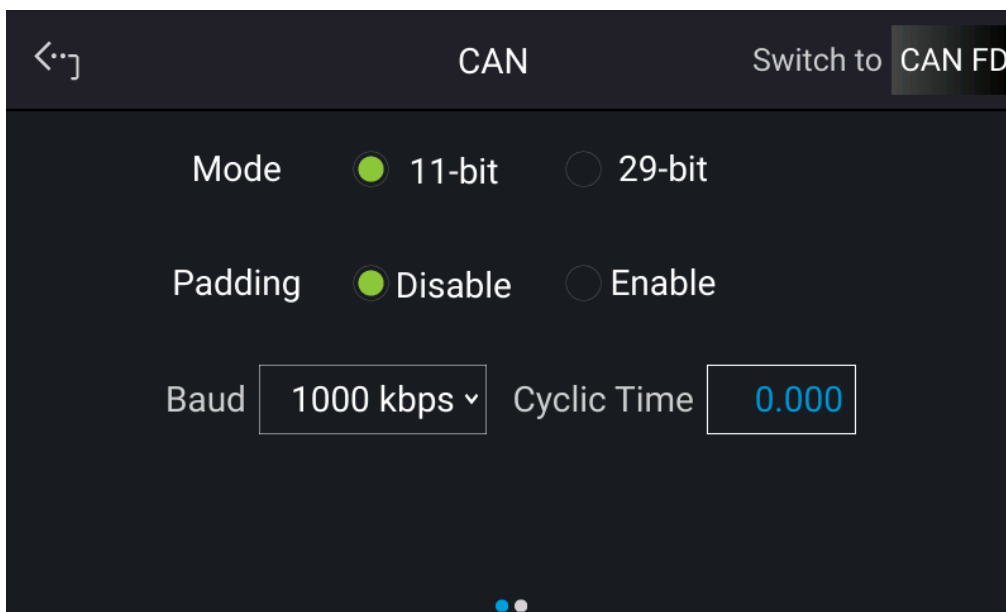
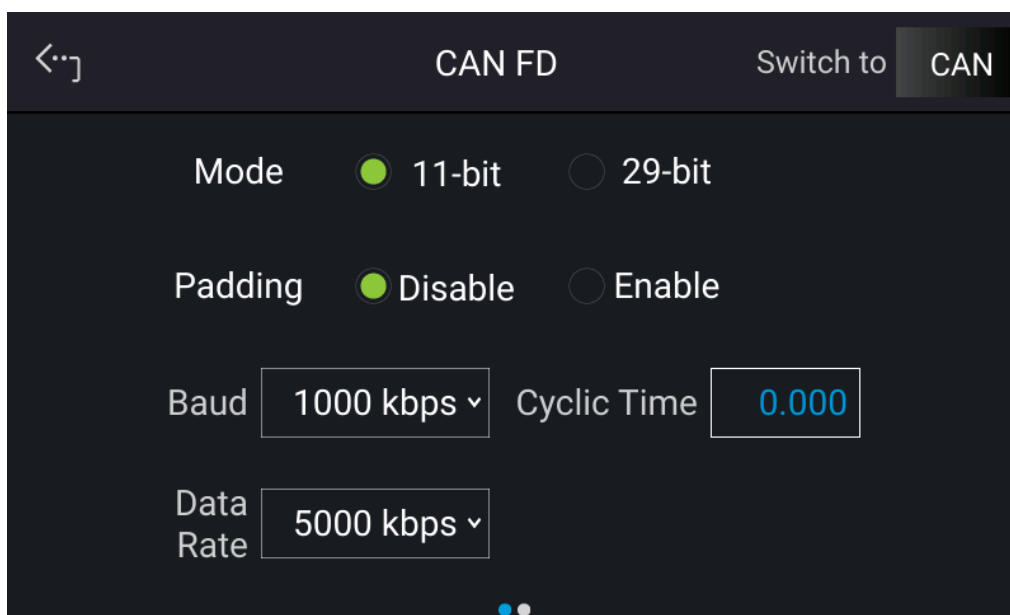

Figure 3-67
Figure 3-68
1. In the “Interface” page, select CAN as the screen shows in Figure 3-67 or Figure 3-68 shows.